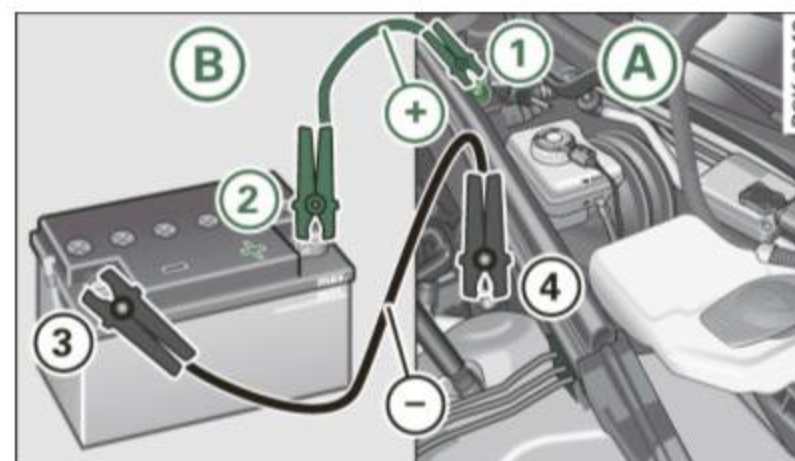

Fig. 233 Jump starting with the battery of another vehicle: A discharged vehicle battery, B booster battery
- 1. Connect one end of the positive cable (red) on the **jump start bolt** ⇒ fig. 233 ① (Bolts under red cover = “positive”) of the vehicle to be started ①A.
- 2. Connect the other end to the positive terminal ② of the booster battery ②B.
- Please note that the procedure for connecting a jumper cable as described above applies specifically to the case of your vehicle being jump started. When you are giving a jump start to another vehicle, do *not* connect the negative (–) cable to the negative (–) terminal on the discharged battery ④ ⇒ *page 318, fig. 233*. Instead, securely connect the negative (–) cable to either a solid metal component that is firmly bolted to the engine block or to the engine block itself. If the battery that is being charged does not vent to the outside, escaping battery gas could ignite and explode! ■